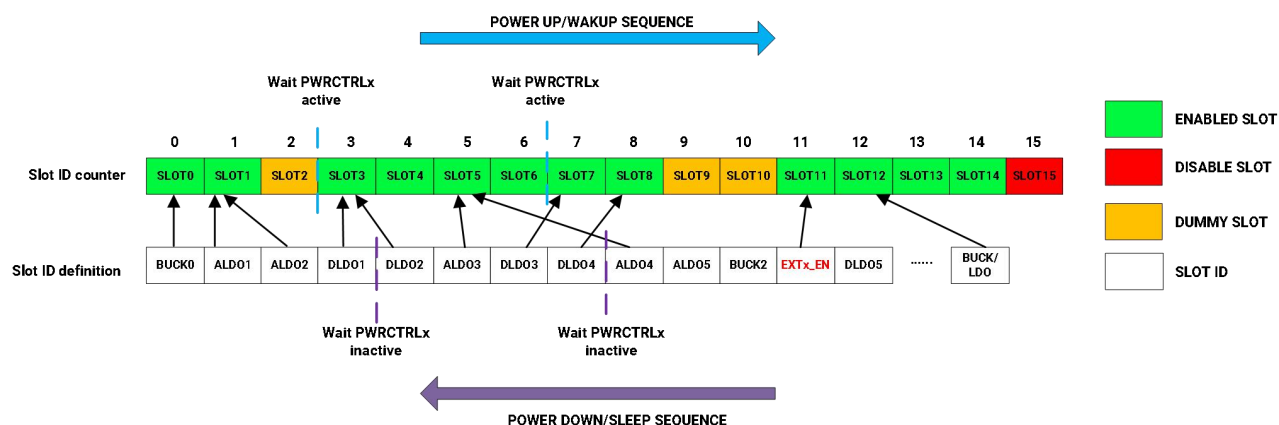
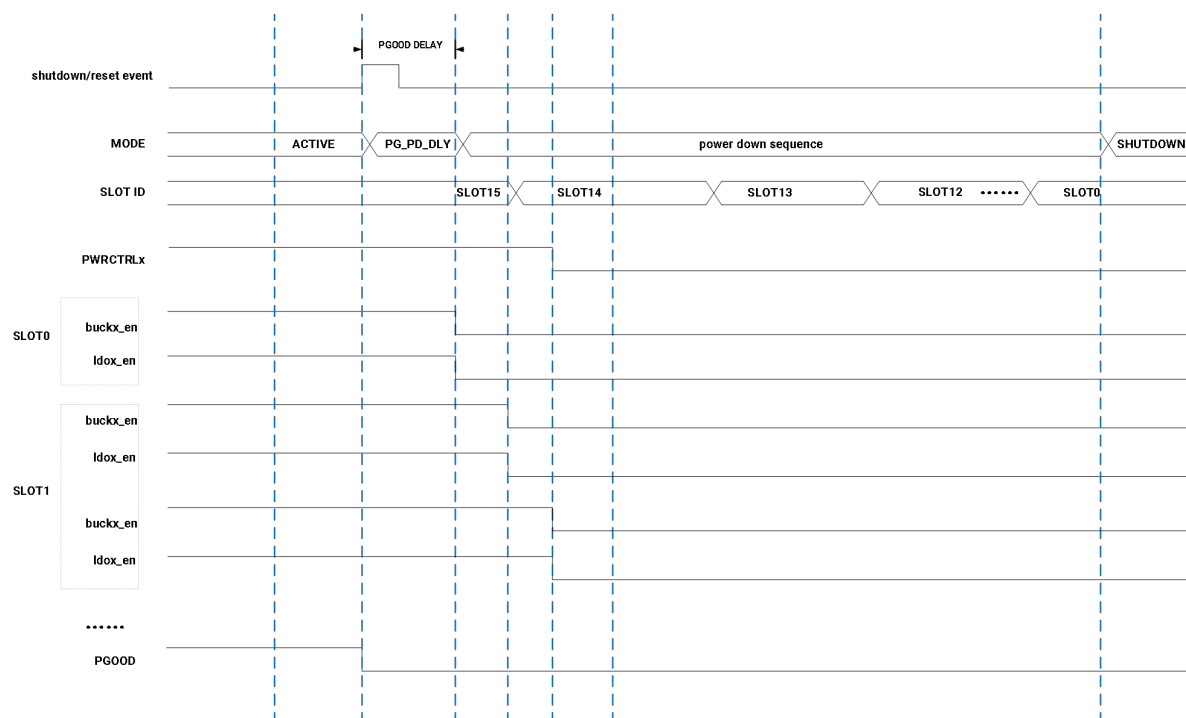

Figure 6-4 Sequence Controller Timing Diagram
Figure 6-7 Shutdown Sequence Timing Diagram
- ✧ The behavior within each SLOT follows the same logic as the startup sequence, but trigger conditions and output polarity are inverted (see Figure 6-4 Sequence Controller Timing Diagram, Figure 6-7 Shutdown Sequence Timing Diagram).